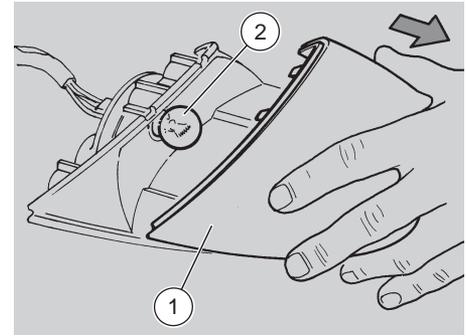

Fig. 61
- ◆ Remove the glass (1-Fig. 61).
- ◆ Rotate the bulb (2-Fig. 61) anticlockwise and extract it from its seat.